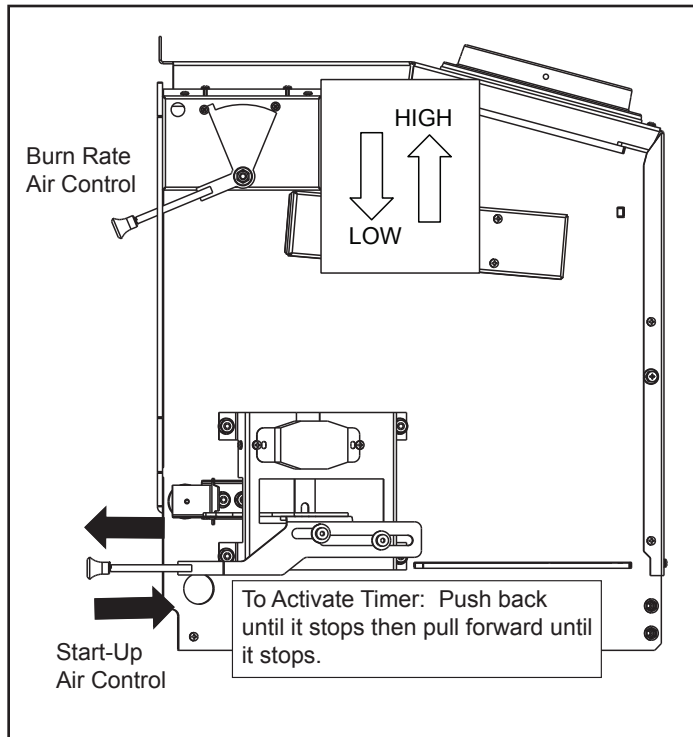

Figure 11.1 Activating Timer
- When the control is raised all the way up it is on the High setting and when pushed all the way down it is on the Low setting. **Figure 11.1.**
2. Follow these burn rate instructions below and refer to **Figure 11.1**.